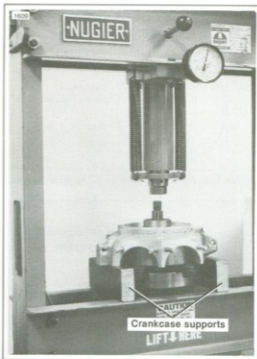

Figure 3-46. Pressing Flywheels Out of Crankcase
- Mount flywheel and left case assembly on press table supporting case on parallel bars (Figure 3-46)
Disassembling Flywheels (Figure 3-46)